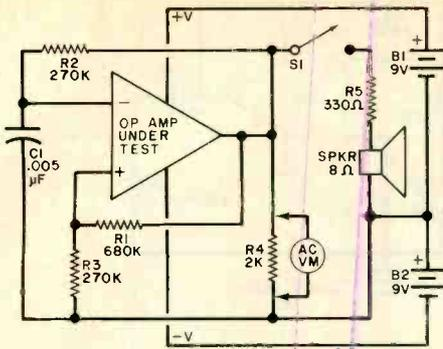

Fig. 1. Simple op amp tester has meter and audio outputs.
**Construction.** The stopclock is best assembled on two printed circuit boards, the etching and drilling and component placement guides for which are shown in Fig. 2. The circuit is split between the main and display boards as shown by the two sections in Fig. 1.
Connect and solder the free ends of the wires coming from holes H and I to the lugs of *TS1* and the free ends of the J, K, L, and M wires to lugs 3, 6, 4, and 5, respectively of *TS2*. Solder 5" lengths of hookup wire to each of the lugs on *TS2* and wire them to the switches as shown in Fig. 1. Label *TS1* 12 VOLTS AC and lugs 3 through 6 on *TS2* STOP, START, RESET, and GROUND, respectively. Then label switches *S1*, *S2*, and *S3* STOP, START, and RESET, respectively.
Bear in mind that each of the three circuits operated by the pushbutton switches in Fig. 1 is held at +12 volts by *R1*, *R2*, and *R3*. To enable an input, the bottom ends of these resistors must be connected to ground. Therefore, any external switching device connected to *TS2* must have an on-resistance of less than 100 ohms and an off resistance in excess of 10,000 ohms. In the momentary-on condition, the external switching device must be capable of handling 12 mA of current.
Fig. 2. Commercially available “starter kit” from E&L Instruments illustrates breadboarding of the test circuit in Fig. 1. Can be purchased from E&L Instruments, 61 First St., Derby, CT 06418 for \$14.00 plus 50¢ postage and handling; order no. 355-7100.
**Op-Amp Testing.** The first experiment to try with your op amp is shown schematically in Fig. 1. This is an op-amp test circuit, a multivibrator arrangement where the IC acts as a free-running oscillator that produces a square-wave output.
to that shown in Fig. 1, except that the value of  $C1$  has been greatly increased to slow down the repetition rate to about 1 Hz (1 pps). Display circuit A shows the addition of a conventional silicon diode and a LED (any color) that will pulse on with each positive-going portion of the oscillation pulse. The variation shown in circuit B employs two differently colored LED's. Arranged with silicon diodes, the LED's pulse on and off in step with the op amp's oscillator signal. (Note: some of the older type green and yellow LED's require more drive current than do red LED's, which means that they might not glow as brightly. If you use the newer GaP green or yellow LED's, you will encounter no difficulty in glow light level.) The two-color circuit can also serve as a polarity indicator for other circuits, if you assume the red LED to be on for one polarity and the green LED on for the other polarity.